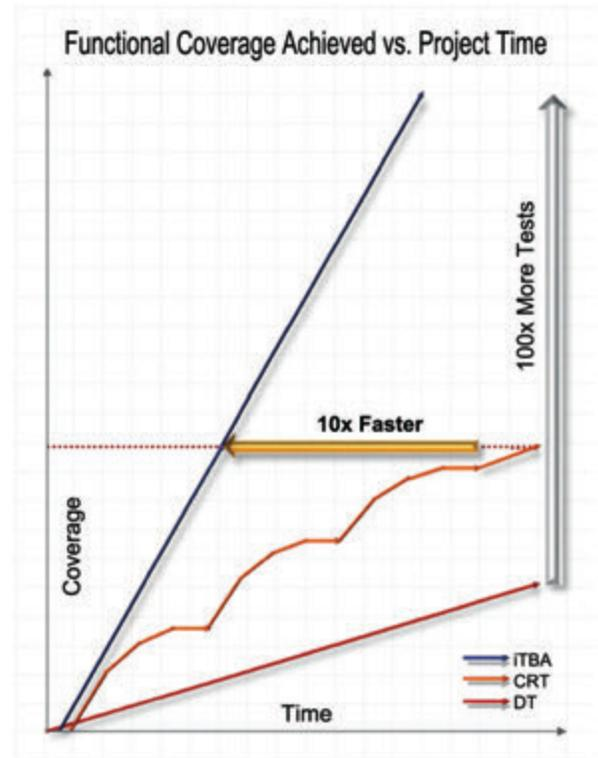

Figure 1 - Comparison of Functional Coverage Achieved Over Project Time
Intelligent Testbench Automation (iTBA) is being successfully adopted by more verification teams every day. There have been multiple technical papers demonstrating successful verification applications and panel sessions comparing the merits to both Constrained Random Testing (CRT) and Directed Testing (DT) methods. Technical conferences including DAC, DVCon, and others have joined those interested in better understanding this new technology. An entire course curriculum is available at the Verification Academy. And many articles have been published by various technical journals, including in this and previous Verification Horizons editions. So with all of the activity, how do verification teams separate out the signal from the noise? How do they know whether Intelligent Testbench Automation is applicable to their designs? How do they know whether they will experience the advertised gains in verification productivity, as shown in Figure 1 to the right? This article does not discuss how Intelligent Testbench Automation works, as indeed there are several sources for that information just mentioned. This article discusses where iTBA is best applied and where it will produce optimal results, as well as where it is not and will not. As with most emerging technologies, iTBA yields better results in some applications than others.